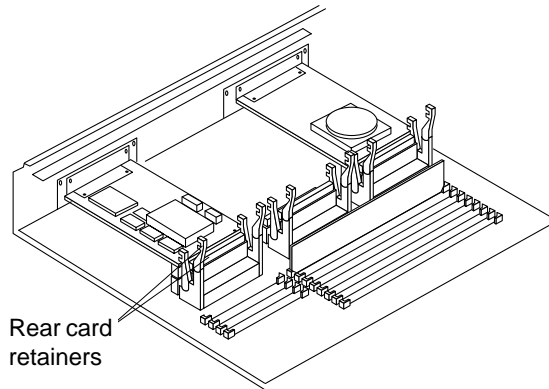

FIGURE 10-3 SBus Rear Card Connectors
8. Push the rear card retainers away from the edge of the SBus card. See FIGURE 10-3.